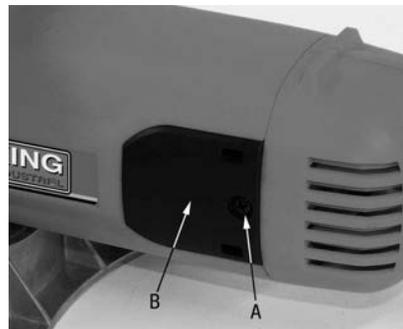

FIGURE 10
Using a screwdriver remove screw (A) Fig.10 then remove the brush holder cap (B). Take out the worn carbon brush, insert a new one and secure the brush holder cap. Repeat for the opposite side.